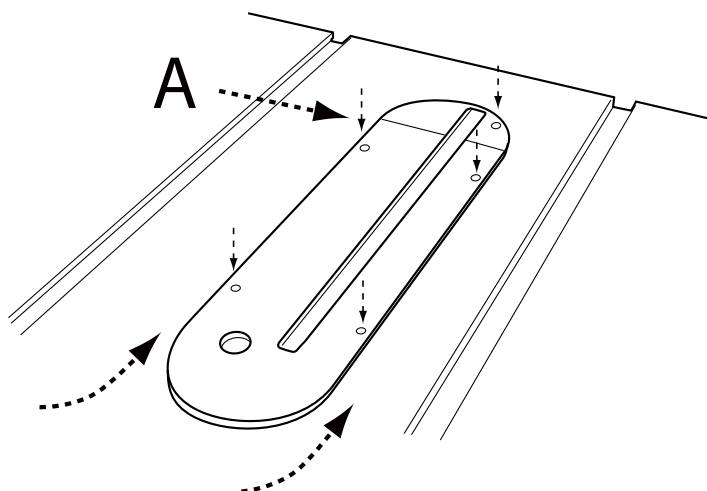

FIGURE 15
1. To install throat plate, lower blade below tabletop, then carefully feed the throat plate, with plate end first, from the front of the table to the rear, keeping the blade centered within the slot on the throat plate. See Figure 15. The plate should rest within the cavity in the tabletop on top of 5 flat head screws.
3. If the throat is not flush with the tabletop, adjust the height of the throat plate using the five set screws (A) below the throat plate.